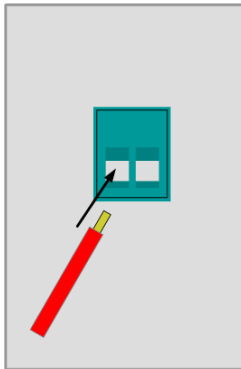

Figure7. Power Supply-1
- As shown in Figure 7, remove the skin of wire about 7mm and put it into the terminal and tighten it by turning the left screw using screwdriver.